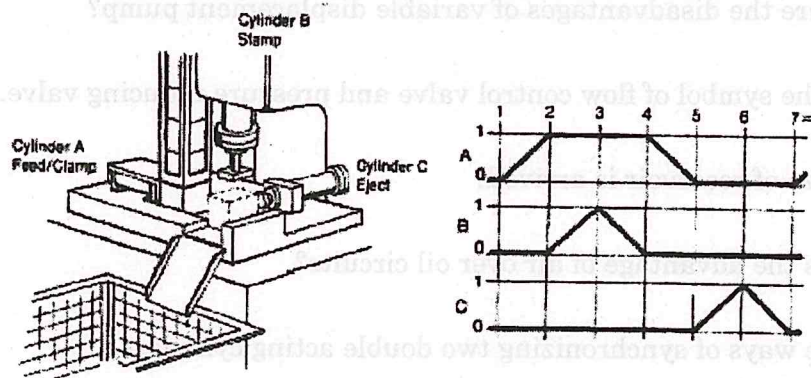

Fig. 1
14. (a) Design pneumatic circuit for process represented in Fig. 1.